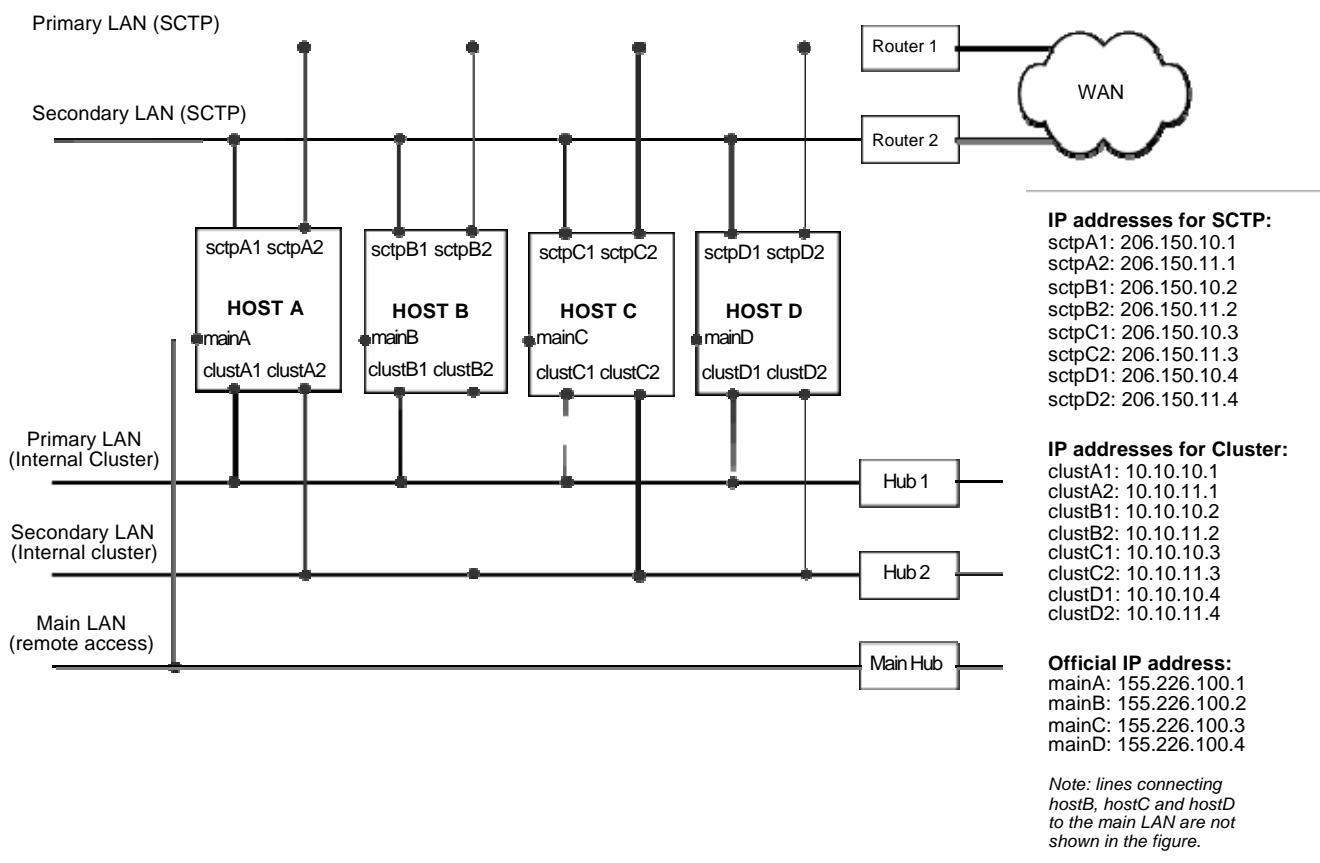

Figure 4-1: LAN Connections
Figure 4-1 illustrates the recommended network layout for a 4-node distributed Signaling Gateway system. For redundancy purposes, both the cluster LAN and SCTP network have dual Ethernet interfaces. Therefore, a total of five ethernet interfaces/IP addresses are required per host, with two for each network, and one for the primary interface (comes as default with the system):
- a. Design the network topology, similar to the example in Figure 4-1.
On each host, add all five IP addresses and names of each host involved in the network to the `/etc/hosts` file. Based on the example shown in Figure 4-1, LAN Connections, on page 4-10, the `/etc/hosts` file may look like the following: